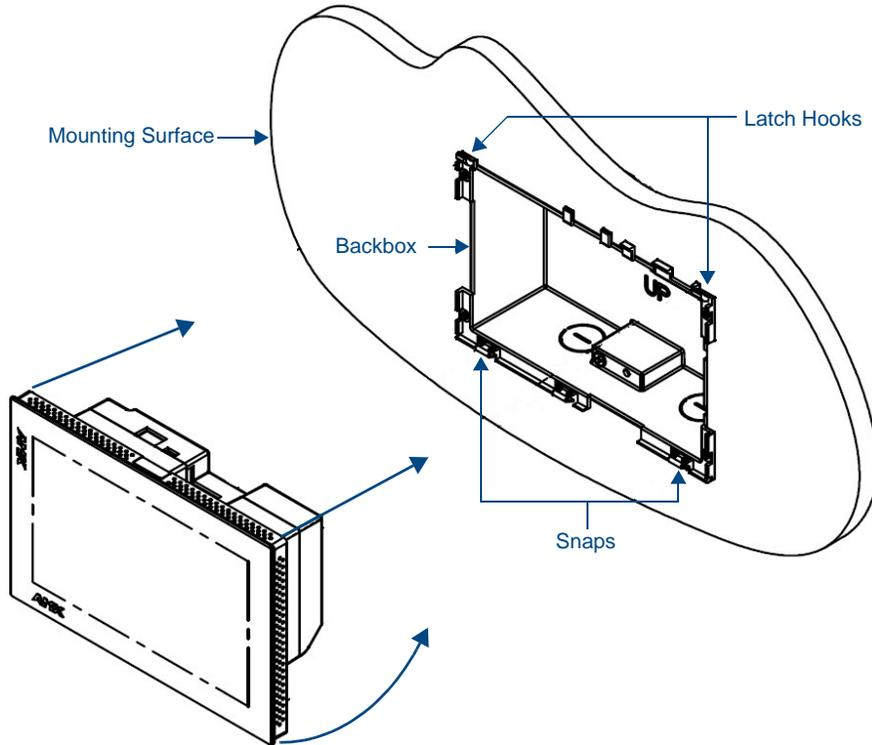

FIG. 37 Installing the MXD-700
10. Latch the panel onto the top hooks on the Backbox and push it down (Landscape) onto the bottom snaps or on the left side and push it to the right (Portrait) (FIG. 37).